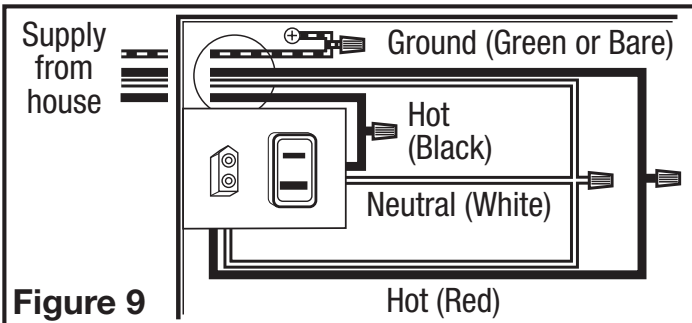

Figure 9
- 2b. From where you have access to inside the fan's junction box, connect the one white wire from the house to both the white wire from the fan's light receptacle and the white wire from the fan's exhaust receptacle. Connect the first black wire from the wall switch to the red wire from the fan's light receptacle. Connect the second black wire from the switch to the fan's exhaust receptacle. Connect the ground wire from the house to the green wire from the fan's grounding screw (Figure 9). Use approved methods for all connections.